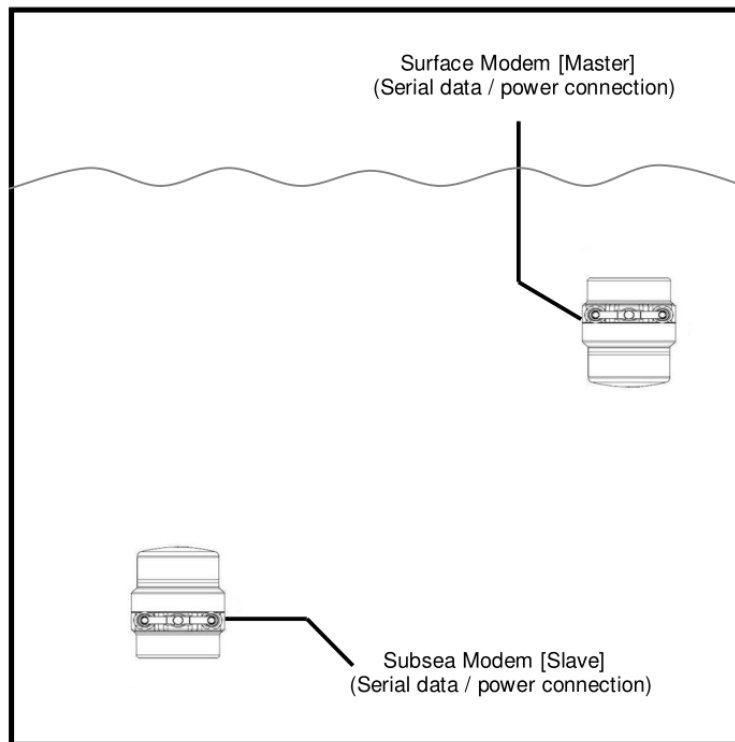

Figure 4.1. Pair of Micron Modems in Use
- The terms "Master" and "Slave" in Figure 4.1, "Pair of Micron Modems in Use" are used purely as an aid to system description. Either unit can transmit to and receive from the second unit. The operating distinction between a master and slave is that each uses a separately coded CHIRP to avoid a unit receiving a close echo of its own transmission.